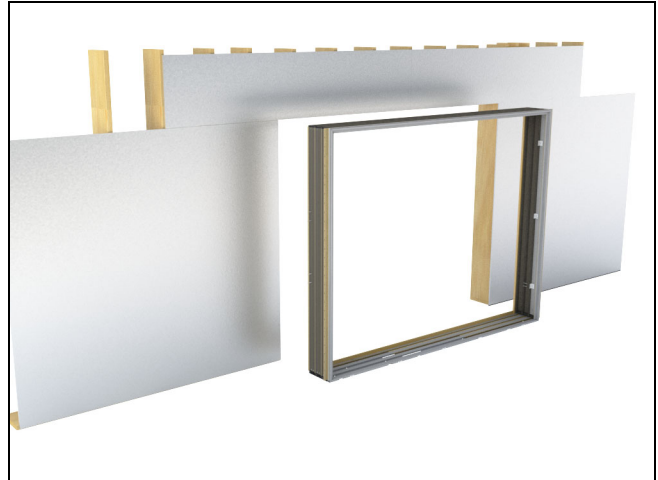

Figure 58
1. Stand frame upright in front of rough opening. See figure 58.